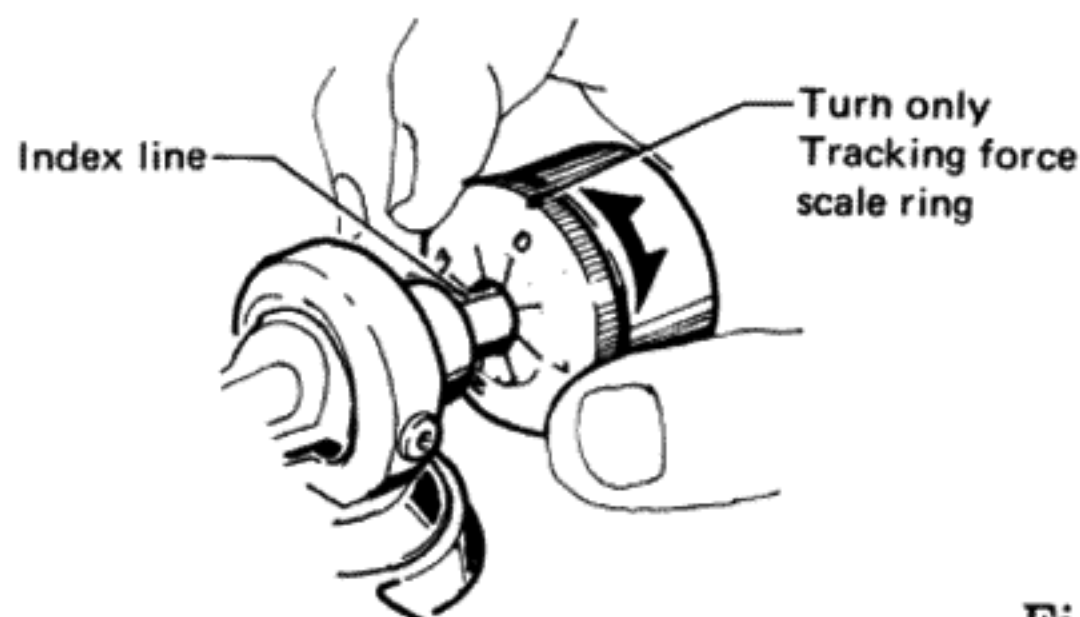

Fig. 7
8. Since the tracking force is zero when the tonearm is balanced level, turn just the tracking force scale ring in front of the counterweight, and set the "0" on the scale to the index line on the shaft (Fig. 7).